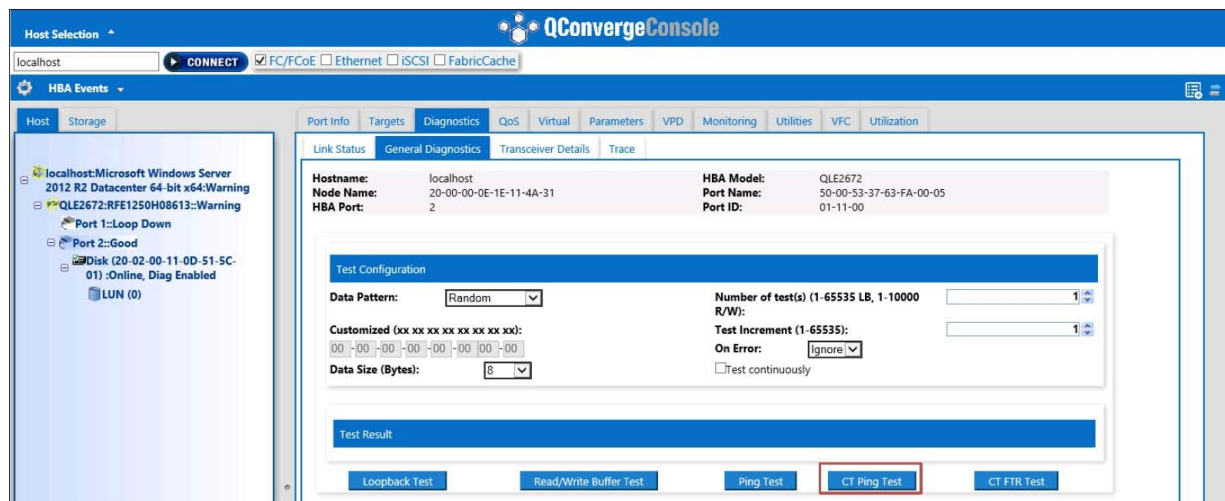

Figure 3-30. Running the Fibre Channel CT Ping Test
5. On the General Diagnostics page (see Figure 3-30), complete the **Test Configuration** options, and then click **CT Ping Test** to start the test.